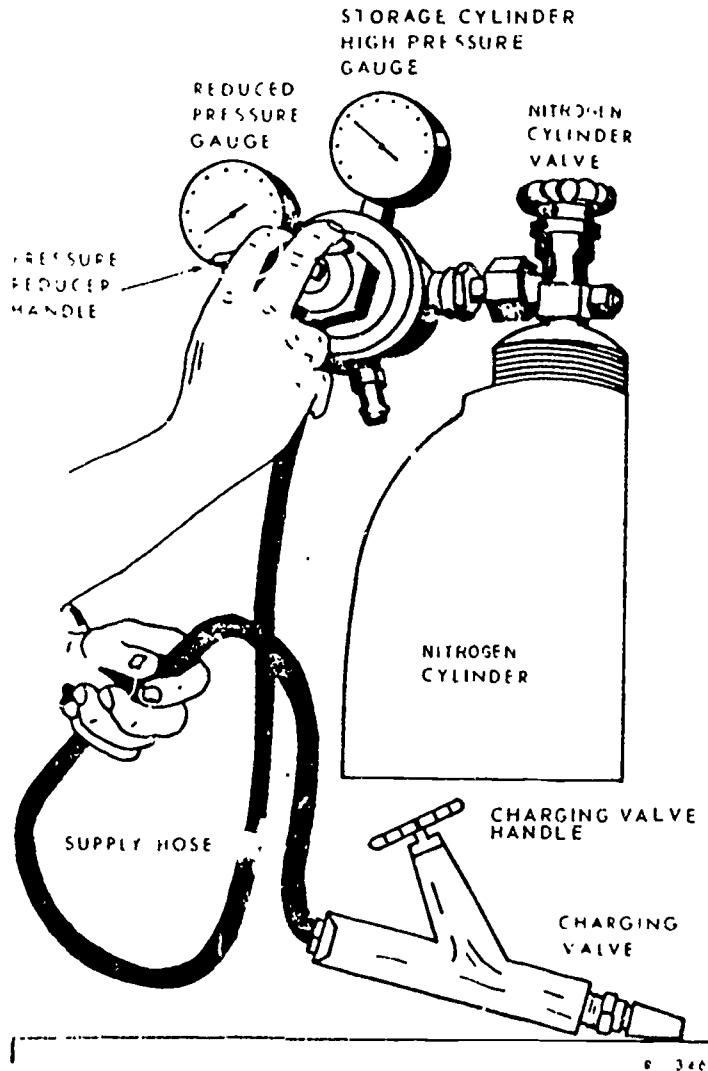

Figure 4. Gaseous Nitrogen Servicing Unit.
2. Prepare the Gaseous Nitrogen Servicing Unit (see figure 4).
a. Check to be sure that the pressure reducer handle is backed out (turn counterclockwise (CCW) and is free to turn (figure 4)).
b. Slowly open the nitrogen cylinder valve and watch the nitrogen cylinder high pressure gage (figure 4). If you have a nitrogen cylinder with a pressure of less than 400 psi, ask your instructor for more instructions before continuing.
c. Slowly turn clockwise (CW) the pressure reducer handle (figure 4) until the reduced pressure gage reads 50 psi.
d. Open (CCW) the charging valve handle (figure 4) on the supply hose. Purge the hose for ten (10) seconds. Close (CW) the charging valve. BE SURE TO POINT THE NOZZLE AWAY FROM YOURSELF, OTHERS, AND WALLS.